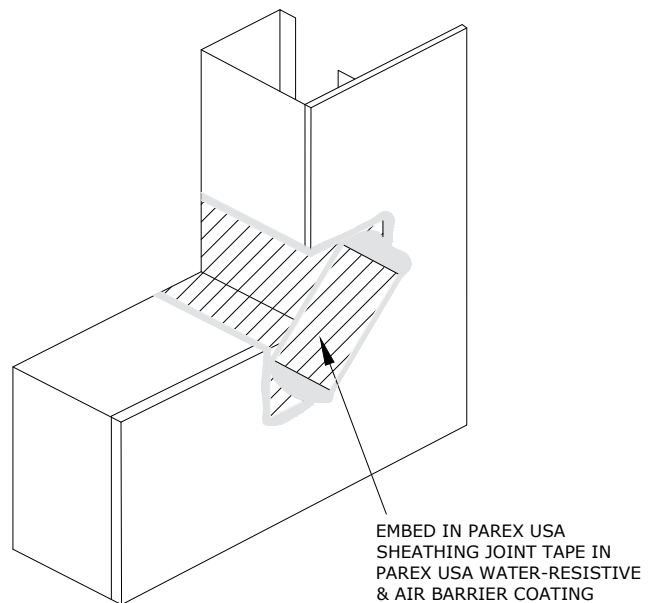

Fig. 13.2
2. Cut "bandages" to 4 in. (102mm) x 6 in. (152mm). Embed 396 Sheathing Tape into Parex USA WeatherSeal and install diagonally at sill corners as shown. Sheathing should not be visible at the corners of the rough opening (Fig 13.2).